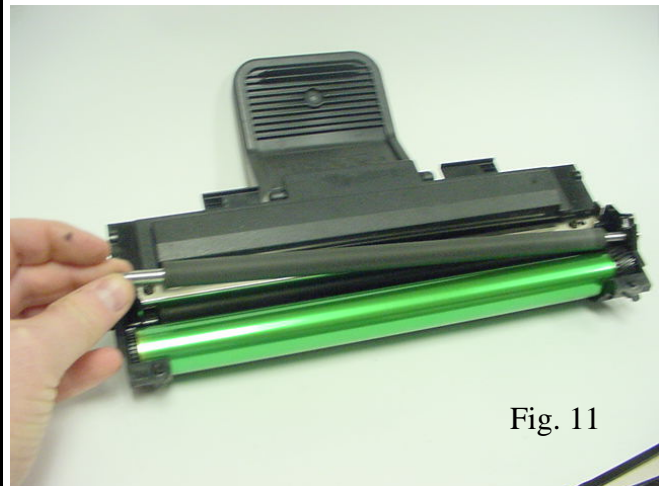

Fig. 11
11. Remove the PCR by sliding it toward the gear end of the cartridge and lifting the post once clear from the Saddle (Fig. 11). Clean PCR and set aside for Reassembly.